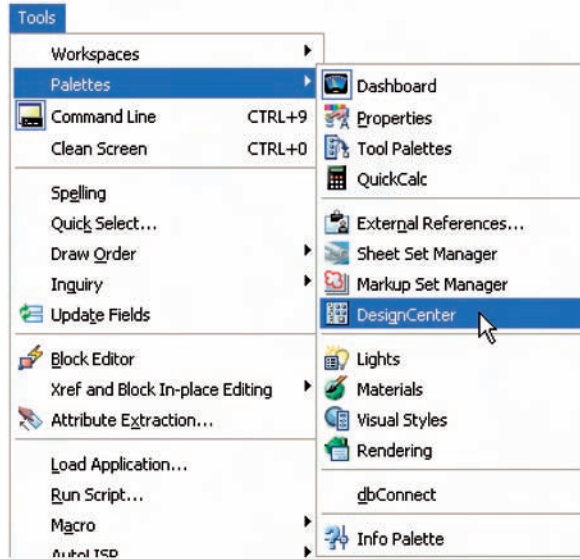
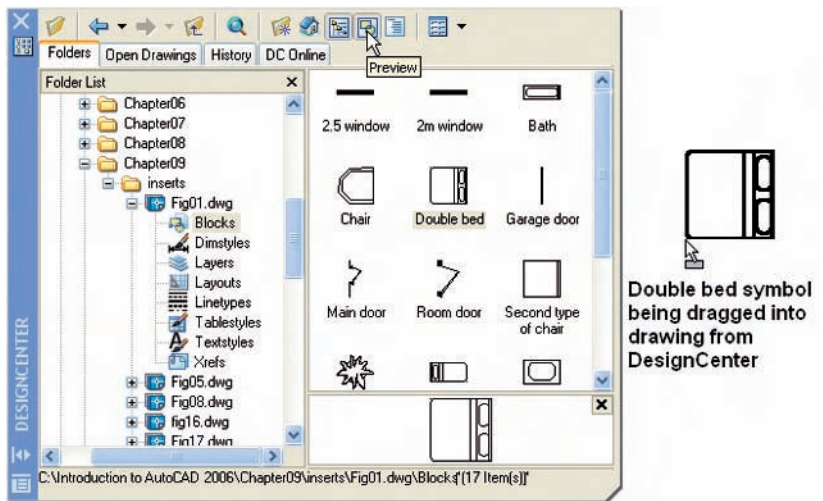

Fig. 9.9 Selecting **DesignCenter** from the **Palettes** sub-menu of the **Tools** drop-down menu
Fig. 9.10 The **DesignCenter** with the double bed block *dragged* on screen
2. *Left-click* **DesignCenter** in the **Palettes** sub-menu of the **Tools** drop-down menu (Fig. 9.9). The **DesignCenter** palette appears on screen (Fig. 9.10).